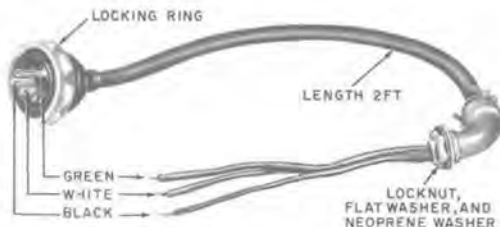

Fig. 4—KS-19580, List 30 Power Cord Assembly
- (a) *KS-19580, List 30 power cord assembly (Fig. 4):* Used for overhead power.